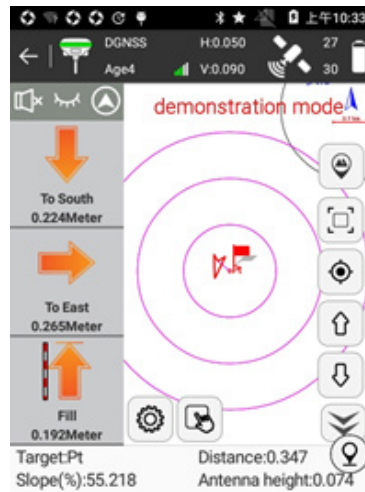

Figure 5.4-6
3. When current point is within prompt range, there will be three concentric circles as shown in Figure 5.4-6, which indicate it enters precise stakeout.